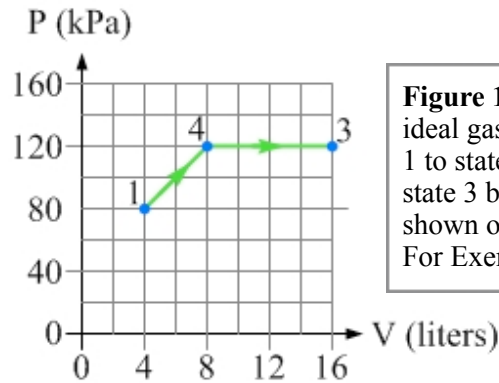

Figure 15.31: A system of ideal gas is moved from state 1 to state 4 and then on to state 3 by the processes shown on the P-V diagram. For Exercises 47 – 49.
47. In section 15-2, we examined a system of diatomic ideal gas that was moved from state 1 to state 3 via state 2. Let's now bring the same system from state 1 to state 3 via state 4, as shown in Figure 15.31. Draw your own version of the P-V diagram, and then shade in the region that corresponds to the work done in moving the system from (a) state 1 to state 4 (b) state 4 to state 3. (c) Calculate the work done by the gas in these two processes.
48. Consider the system of diatomic ideal gas described in Exercise 47, and the processes shown on the P-V diagram in Figure 15.31. For the two processes shown, calculate (a) the change in internal energy of the gas, and (b) the heat added to the gas.